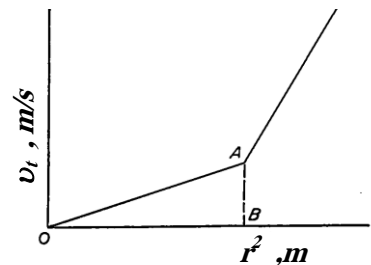

Figure 4
- Sometimes you may get a graph with two distinct straight lines as shown in **Fig.4**. The line which starts from the origin is the one